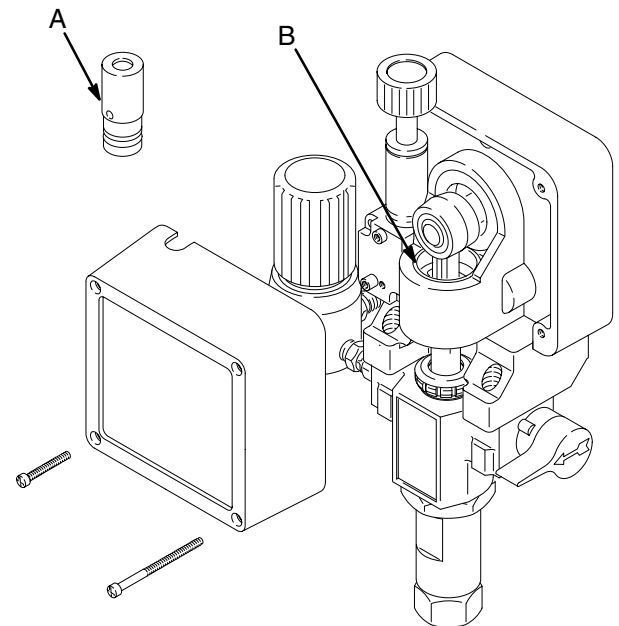

Fig. 12 _____ **02827A**
4. Periodically clean paint residue from the pressure transducer vent hole (A) area. See Fig. 12. Replace the transducer when leakage is excessive. See page 31.
5. Lubricate the bearing housing after every 100 hours of operation. Remove the front cover. Fill the bearing housing cavity (B) with several drops of SAE 10 non-detergent oil. See Fig. 12.